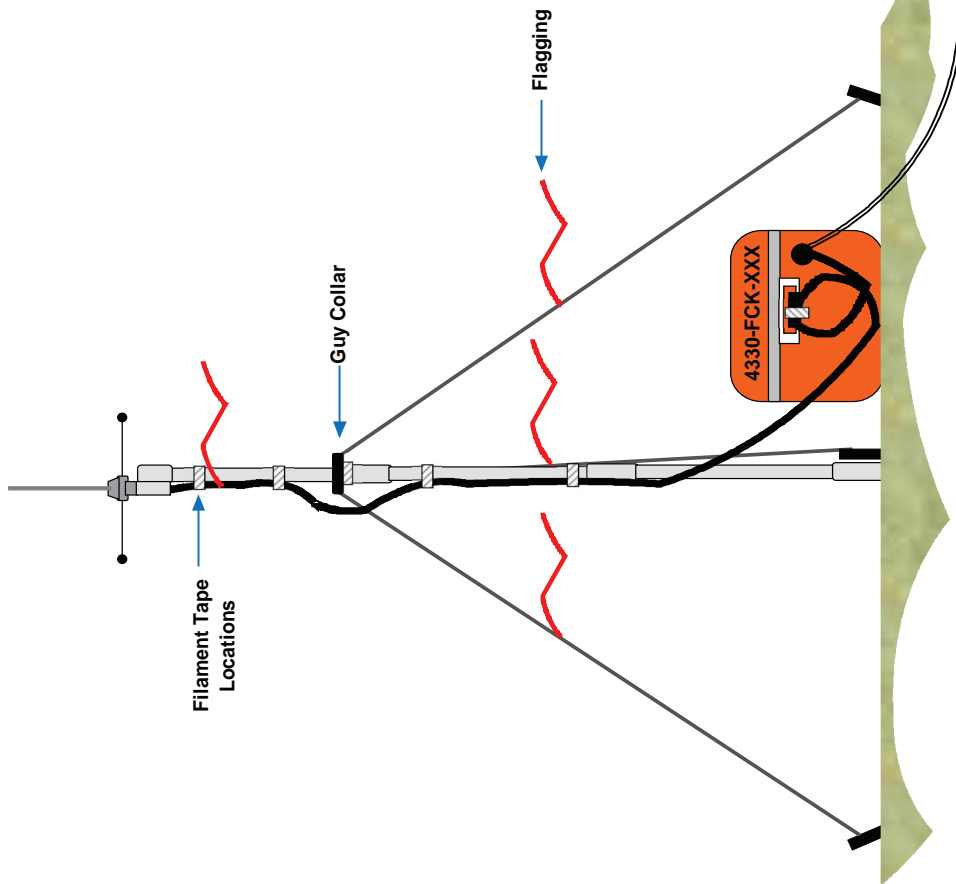

Figure 4:
8. String the communications field wire back to the site of the remote desk set. Attach the wires directly to the bindings on the back on the CPI remote desk set **(not polarity dependent)**. **(See Figures 4 and 6)**